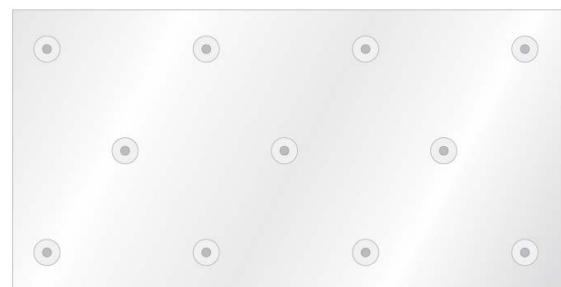

Figure 4. Fastener pattern - 11 fasteners per boards for boards 2400mm x 1200mm (3.81 fixings / m²).
3. Fix Kingspan Kooltherm® K12 Framing Board to the external surface of the frame structure ensuring vertical board joints coincide with a vertical stud. Use 11 fixings and appropriate insulation washers per board, see figure 4. This is to ensure no bowing of the board. Ensure that fixings are coincident with the underlying studs, top and bottom wall plates. Minimum embedment of 25mm for timber framing. Minimum 3 full screw threads engagement for steel framing.